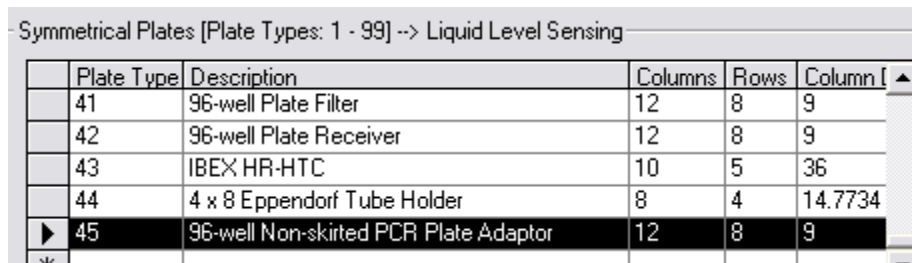

Figure 9-72 Testing Default Positions under Aurora Station Settings Plate Types Tab
Step 1: Click on plate type number to test. (Figure 9-72 Testing Default Positions under Aurora Station Settings Plate Types Tab)